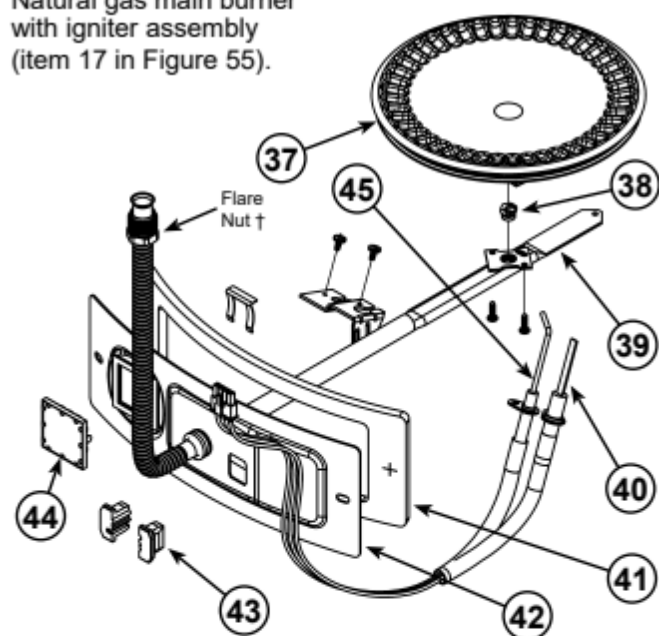

Figure 57.
- 17 Manifold Door Assembly (behind outer door) (see Figure 3 (NG) or Figure 4 (LP)) (see also Figure 57)
- 37 Aluminum Burner (see Figure 3) (see also Figure 57)
- 38 Gas Orifice (see Figure 3) (see also Figure 57)
- 39 Gas Manifold (see Figure 3) (see also Figure 57)
- 40 Hot-Surface Igniter (see Figure 3) (see also Figure 57)
- 41 Manifold Door Gasket (see Figure 3) (see also Figure 57)
- 42 Manifold Door (see Figure 3) (see also Figure 57)
- 43 Two Piece Grommet With Clip (see Figure 3) (see also Figure 57)
- 44 Viewport (see Figure 3) (see also Figure 57)
- 45 Flame Sensor Rod (see Figure 3) (see also Figure 57)